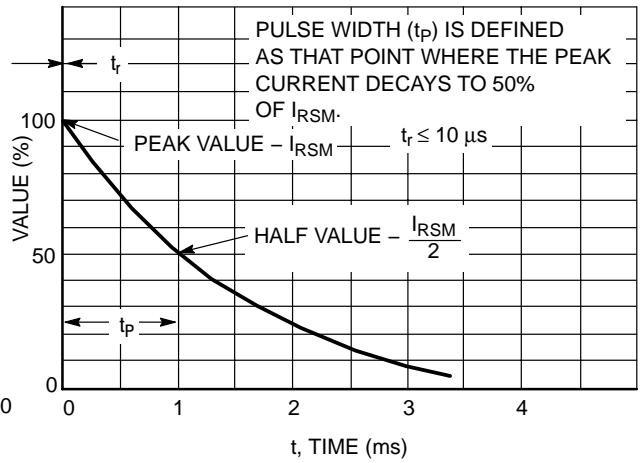
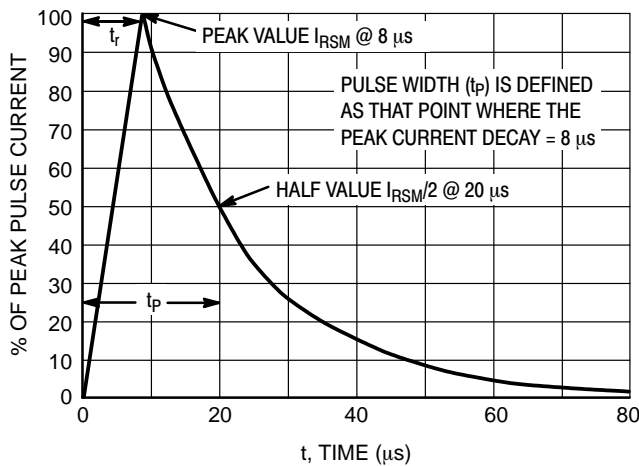

Figure 2. 10 X 1000 µs Pulse Waveform
Figure 3. 8 X 20 µs Pulse Waveform
1. Non-repetitive current pulse at $T_A = 25^\circ\text{C}$, per waveform of Figure 2.
2. Non-repetitive current pulse at $T_A = 25^\circ\text{C}$, per waveform of Figure 3.
7. Surge current waveform per Figure 2 and derate per Figure 3.